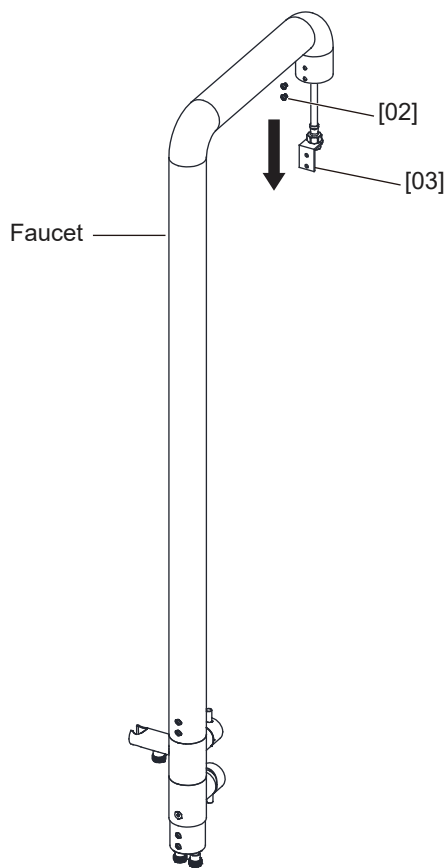

Fig 1.1
- 1-3** Remove the **Screws [02]** from the **Faucet** and slightly pull out the **Connector [03]** from inside as figure shows. (Fig 1.1)